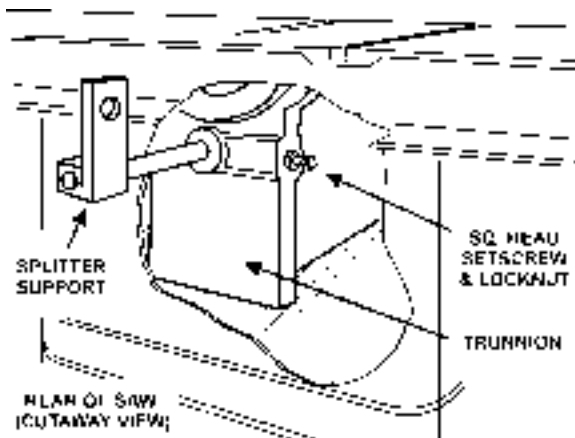

FIGURE 4
1. Insert the grooved end of the splitter support shaft through slot in rear of saw and into hole in trunnion, Figure 4. Make sure the square head setscrew is backed out enough to allow easy insertion.
2. With a wrench, tighten square head setscrew into the groove of the shaft as shown in Figure 4. (NOTE: The groove will be in the proper position if the end of the shaft is made flush with the opposite side of the trunnion hole.) Tighten the locknut. The upright member of the rear splitter support must be on the *left* side of the saw (observed from the saw's front).